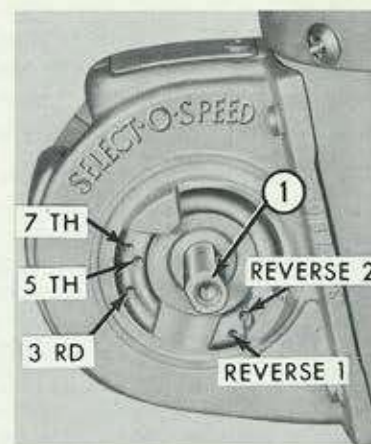

Figure 13
To move the selector lever to the opposite side of the shifter mechanism, take off both covers, Figure 2, by removing the Phillips head screw as shown at (1), Figure 13. Remove the selector lever from the shaft and position it on the shaft on the opposite side of the shifter mechanism. Switch the covers and reinstall with the Phillips head screws. Tighten securely.
Selector Lever Stops: Installation of the Lever Position Stops enables the operator to establish a pre-determined shift pattern between two gears. These stops are especially convenient for loader and other material handling operations. The speed stop screws can be positioned in any two of the gears 3, 5, 7, R_1 or R_2 by inserting them in the holes shown in Figure 13. These stops can be over-ridden to obtain any gear by pulling outward on the spring-loaded selector